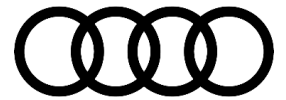

Figure 6. Grease should peek out of the grommet.
5. After applying the grease, the grommet can be pushed back onto the retainers. The grease should start to come out of the end of the grommet (Figure 6).